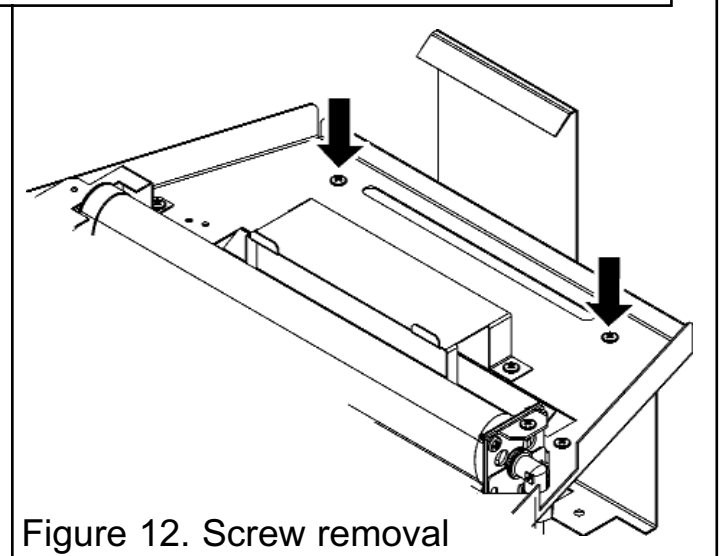

Figure 12. Screw removal
- Without disturbing the burner, remove the two screws at the rear of the burner tray (See figure 12).